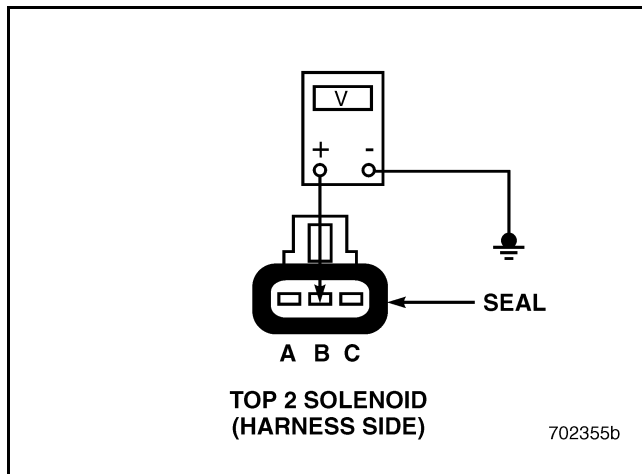

Figure 474
4. Measure the voltage between pin B on the dash harness side of the connector, and a good ground (see Figure 474).